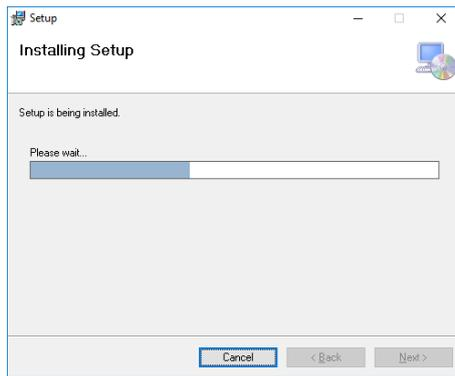

Fig4-7 Installing Bel-Cypher Pro TWAIN screen
9) The dialogue such like Fig. 4-7 is displayed. Bel-Cypher Pro TWAIN is installed.